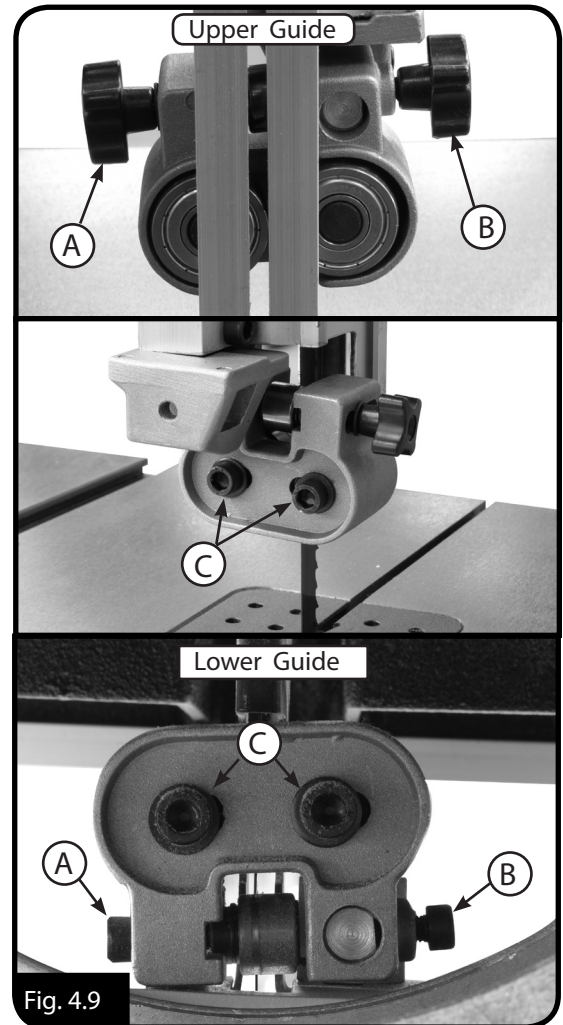

Fig. 4.9
3. Familiarize yourself with the support bearing controls shown in Fig. 4.9
4. Loosen the thumbscrew on the support bearing adjustment shaft. (A in Fig.4.9)